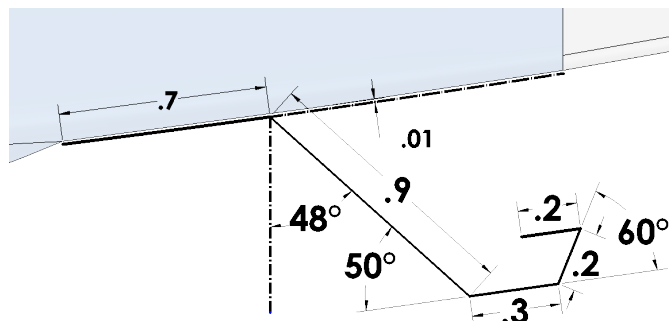

Fig. 13
Step 19. Click **Smart Dimension**  (S) on the Sketch toolbar.
Step 20. Add dimensions, **Fig. 13**.